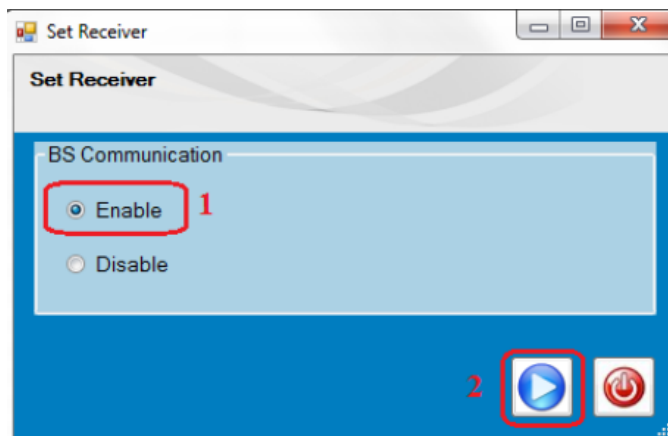

Figure 22
4. After the **Set Receiver** command has been selected, a new window will pop-up. Ensure the following (see figure 22);